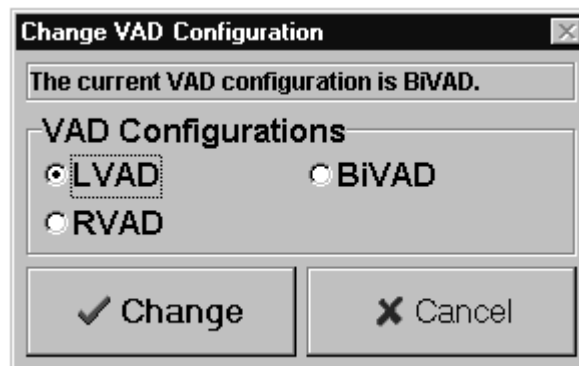

Figure 4.8 HeartTouch Computer “VAD Configuration Dialog Box”
- 4.2.20** Verify that the correct VAD configuration (LVAD, RVAD, or BiVAD) is chosen for the **VAD Mode**. To change, touch the **VAD Mode** button on the HeartTouch computer and a dialog box appears. Touch the correct mode to match the VADs on the patient and then touch **Change**. A dialog screen will ask for confirmation of the change. Touch **YES** to confirm the change, or **Cancel** (Figure 4.8).